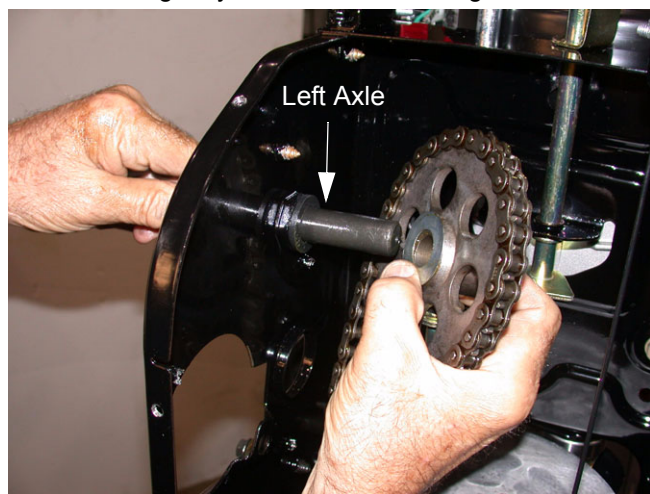

Figure 34
- 13.8. Slide the left axle to the left and remove the axle support tube, gear, shim washer and hex flange bearing as you remove it. See Figure 34.